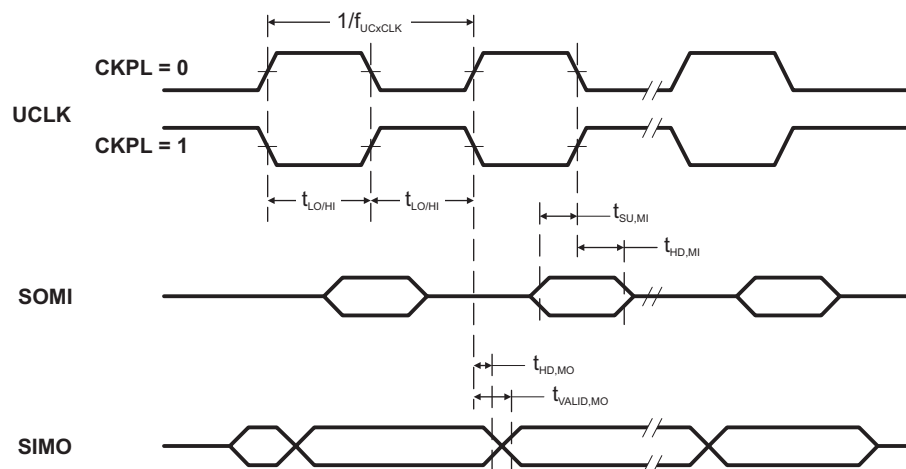
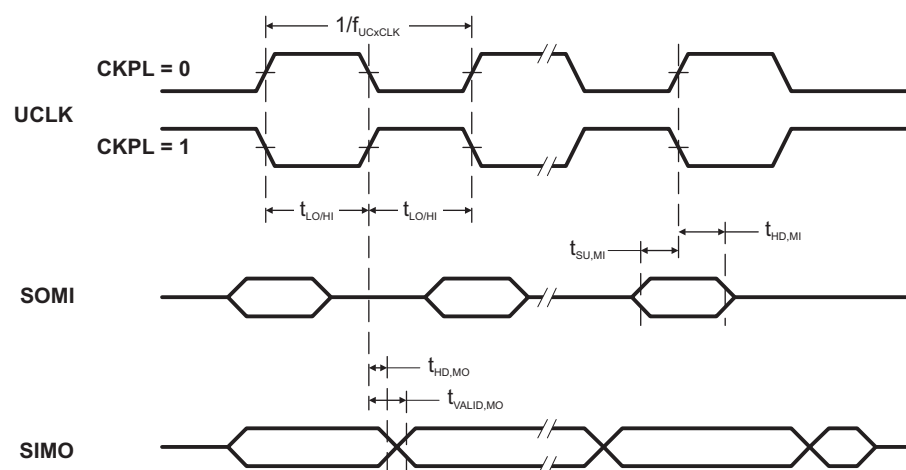

Figure 7. SPI Master Mode, CKPH = 0
Figure 8. SPI Master Mode, CKPH = 1
(see Note ⁽¹⁾, Figure 7 and Figure 8)
- (2) Specifies the time to drive the next valid data to the SIMO output after the output changing UCLK clock edge. See the timing diagrams in Figure 7 and Figure 8.
- (3) Specifies how long data on the SIMO output is valid after the output changing UCLK clock edge. Negative values indicate that the data on the SIMO output can become invalid before the output changing clock edge observed on UCLK. See the timing diagrams in Figure 7 and Figure 8.
- (2) Specifies the time to drive the next valid data to the SOMI output after the output changing UCLK clock edge. See the timing diagrams in Figure 7 and Figure 8.
- (3) Specifies how long data on the SOMI output is valid after the output changing UCLK clock edge. See the timing diagrams in Figure 7 and Figure 8.